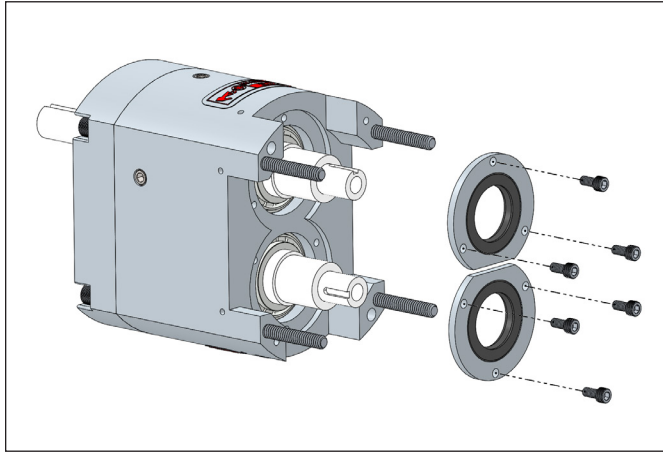

Figure 40. Tape Shafts and Remove Bearing Retainers
3. Any damage to the splines or threads may require the shaft be replaced. Remove the cap screws holding the bearing retainer and splash plates in place and slide both off the shaft (*Figure 40, B*). If they are stuck, use a flat head screw driver as a wedge to pry them from the gear case or leave them in place and when the shafts are removed they will press off with the shafts. Using a straight edge, remove the liquid gasket used to seal bearing retainer to the gear case.
4. Set the gear case in a press with the fluid end side facing down (Figure 40). Use a wooden block to protect the shafts from hitting the ground when pushed out. Once the protective block is in place push the shafts out of the gear case. Reference Table 4 for the required force (in tons) needed to press the shafts out of the gear case.